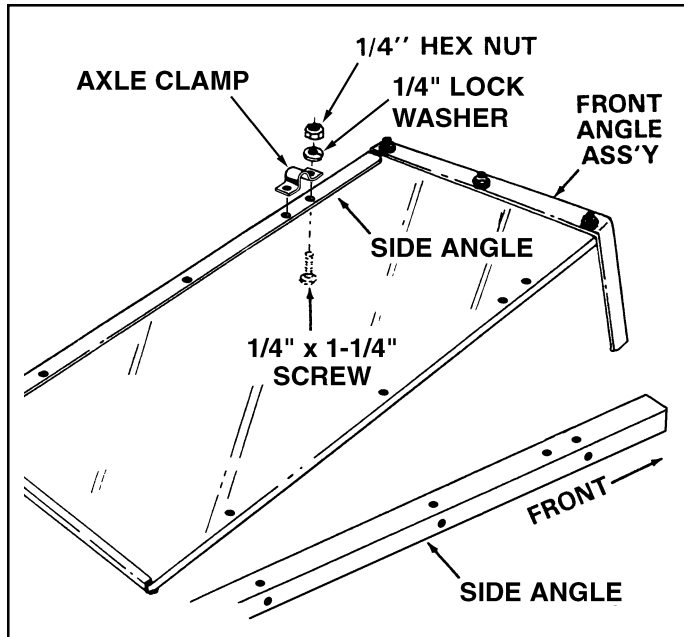

FIGURE 3
3. Turn the front angle assembly and bottom panel upside down as shown in figure 3.
4. Lay the two side angles on the bottom panel so that the two holes for the axle clamps are closer to the front angle assembly. See figure 3.
5. Secure both axle clamps to the side angles and the bottom panel using four 1/4" x 1-1/4" screws, lock washers and hex nuts. **Make only finger tight** until axle is assembled. See figure 3.